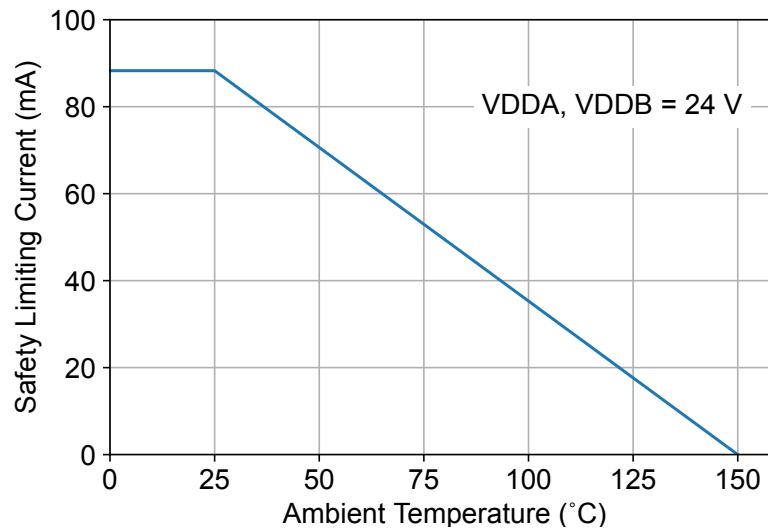

Figure 4.4. WB SOIC-14/16 Thermal Derating Curve, Dependence of Safety Limiting Values
1. Maximum value allowed in the event of a failure. Refer to the thermal derating curves in <a href="#">Figure 4.4 WB SOIC-14/16 Thermal Derating Curve, Dependence of Safety Limiting Values on page 28</a> and <a href="#">Figure 4.5 NB SOIC-16 Thermal Derating Curve, Dependence of Safety Limiting Values on page 28</a> .